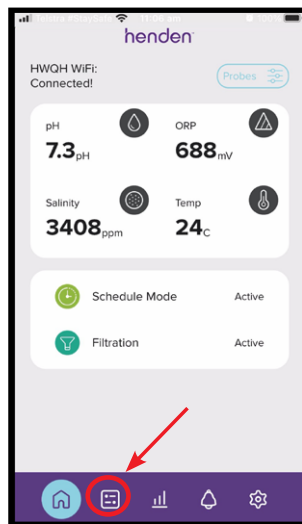

Figure 9.33
- From the dashboard, go to the “modes” menu by using the modes button (refer Figure 9.33).